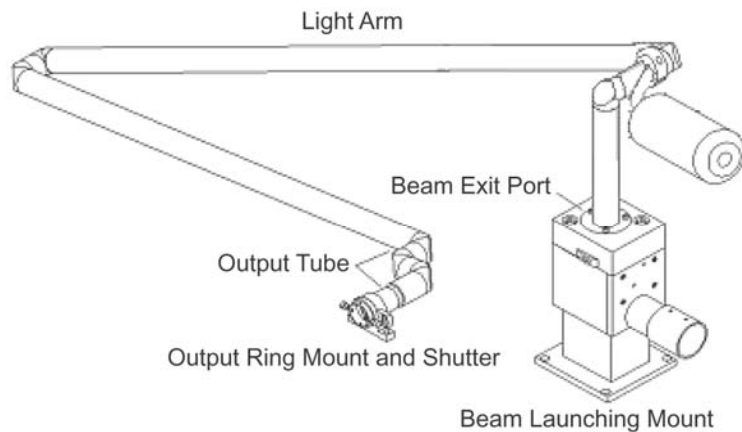

Figure 3. Attaching the Light Arm to the Beam Launching Mount
3. Make sure the arm is installed as shown in Figure 3. Since the arm is constructed from pre-stressed carbon fiber, it is imperative for alignment purposes, that the second joint (the first joint after the counterweight) turns left. If the second joint turns right, the arm is upside-down and you need to reposition the arm.